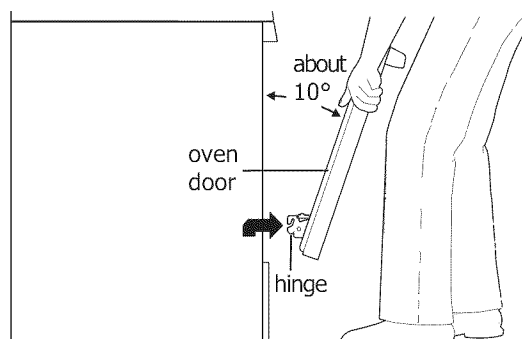
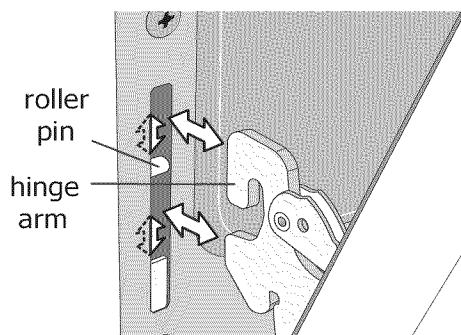

Figure 57: Holding door for removal
Figure 58: Location of hinge arm and roller pin
3. Firmly grasp both sides of oven door along the door sides. Do not use the oven door handle (See Figure 57).
5. Lift the oven door hinge arms over the roller pins located on each side of the oven frame (See Figure 57).
1. Firmly grasp both sides of oven door along the door sides. Do not use the oven door handle (See Figure 57).
2. Holding the oven door at the same angle as the removal position (See Figure 57), seat the hook of the hinge arm over the roller pins located on each side of the oven door frame (See Figure 58). The hook of the hinge arms must be fully seated onto the roller pins.